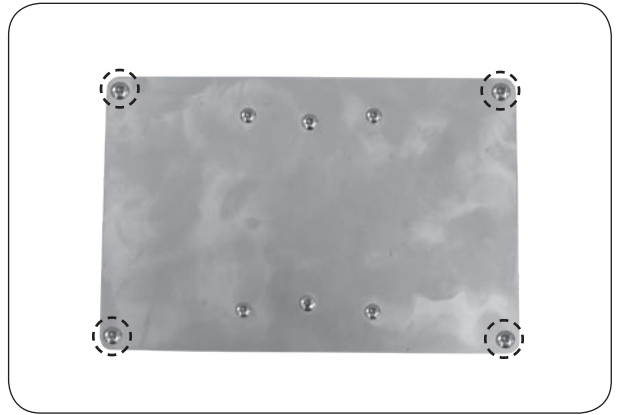

Fig. 38-1 Remove 4 large screws
2. Using a phillips screwdriver, remove the 4 large screws found on the cover of the power supply box (see Fig. 38-1).